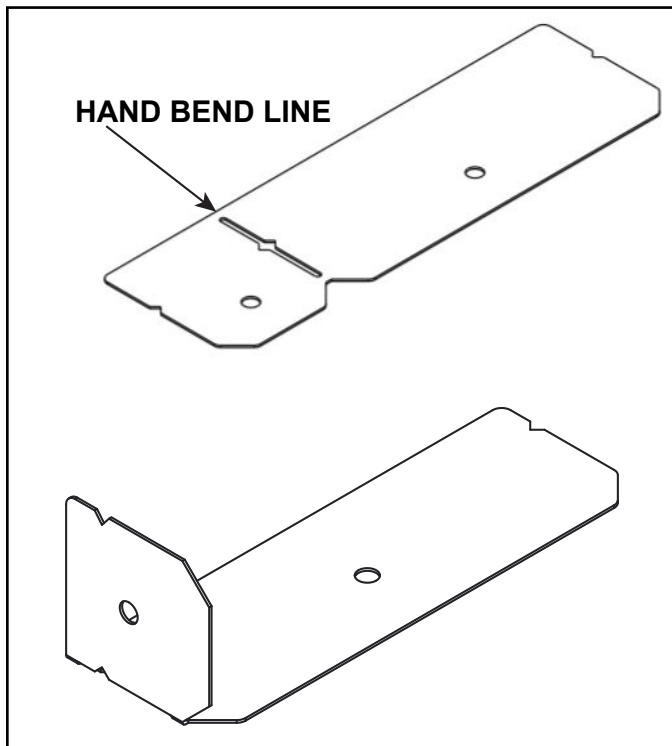

Figure 16 Hand Bending the Template
1. Hand bend templates as shown in Figure 16.